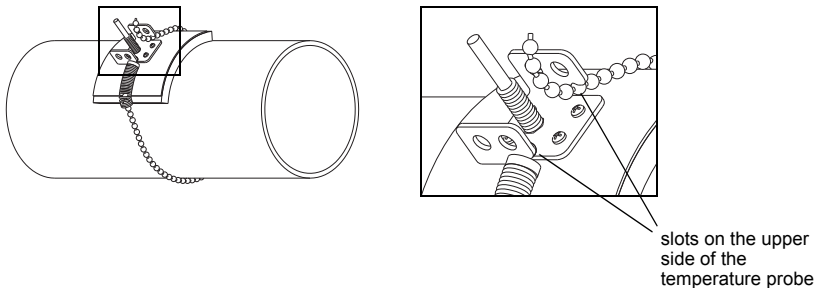

Fig. 9.6: Clasp
- Take the spring end of the chain and insert the first ball into one of the slots on the upper side of the temperature probe (see Fig. 9.6).